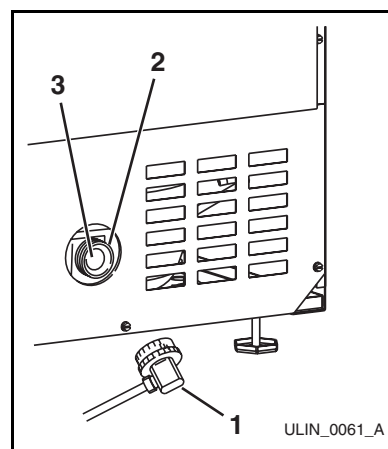

Figure 12
4. Disconnect the hose connector (**Figure 12, 1**) from the water solenoid valve (**Figure 12, 2**).
5. DO NOT remove the inlet screen (**Figure 12, 3**) from the water solenoid valve. Use a toothbrush to gently clean any sediment from the inlet screen.
6. Re-connect the water supply hose connector (**Figure 12, 1**) to the water solenoid valve (**Figure 12, 2**). Tighten the connector securely.